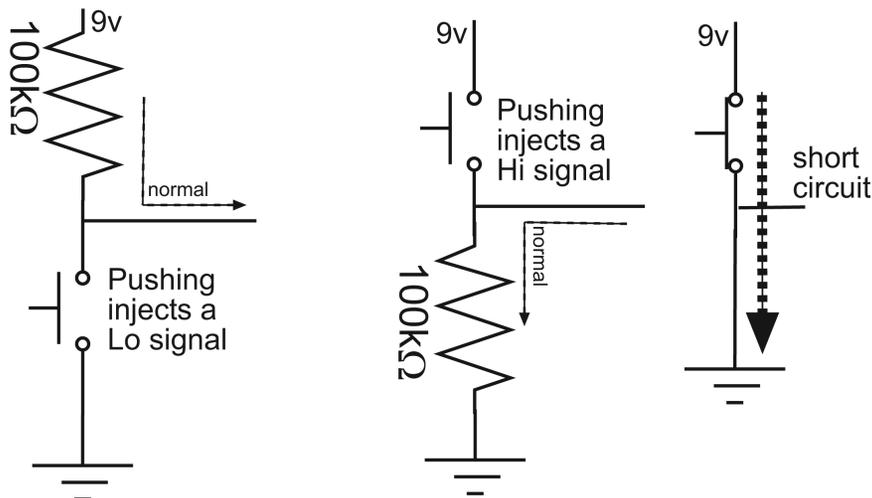

Figure A1-4
1. A conditioned input is shown in Figure A1-4.